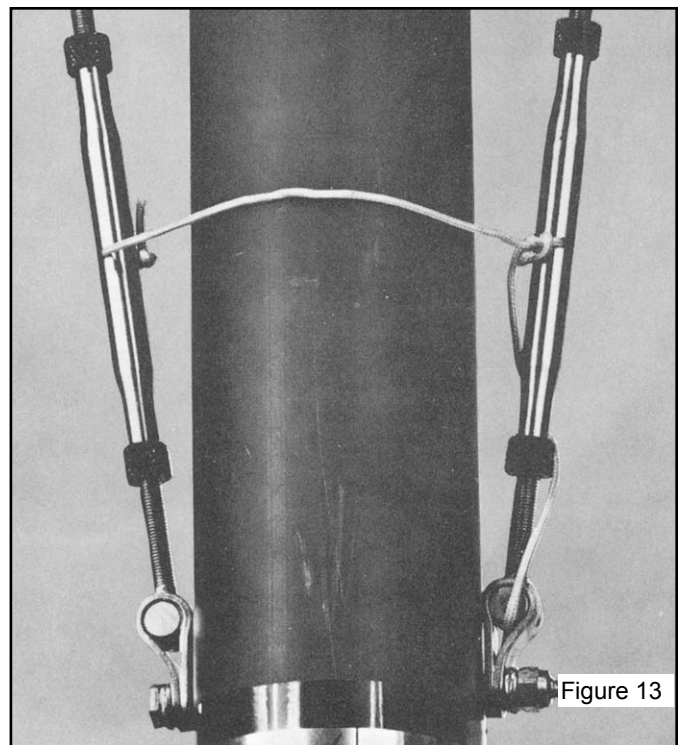

Figure 13
16. Put the retaining nut (1-15) on the exposed threads of the bolt and finger tighten only. It will be tightened later. See figure 13.